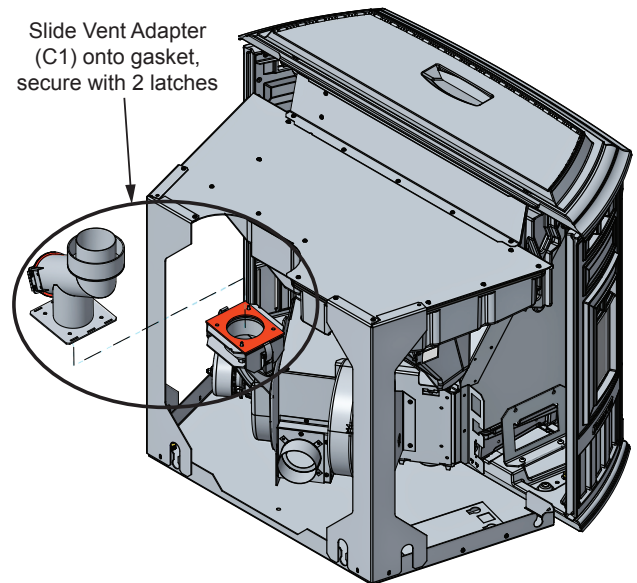

Figure 7
5. Slide the insert into place and place the bottom plate of the Vent Adapter (C1) onto the blower outlet making sure the gasket is still in place. Secure Vent Adapter in place with the latches in same manner as the original vent connector. (Figure 7 & 8).